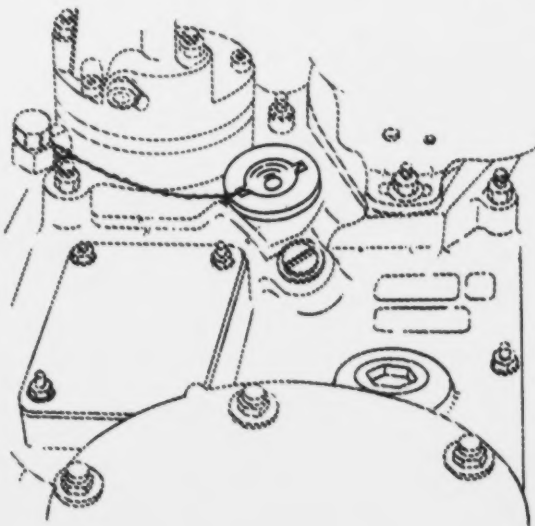

Figure 5-46. Fuel injector oil screen
5-189. The fuel injector pump is lubricated by oil supplied from the engine oil pressure system. A fuel injector oil screen, located below and aft of the fuel injector pump, filters the oil to prevent damage to the fuel injector pump. (See figure 5-46.)
d. Installation. (1) Install preformed packings on fuel injector oil screen.
(2) Install fuel injector oil screen on engine using wrench, part No. 64914, FSN 5120-474-1957. Torque fuel injector oil screen to 10 ft. lbs.
(3) Secure body of fuel injector oil screen with lock wire. (See figure 5-46.)
(4) Close left side of engine cowling doors.